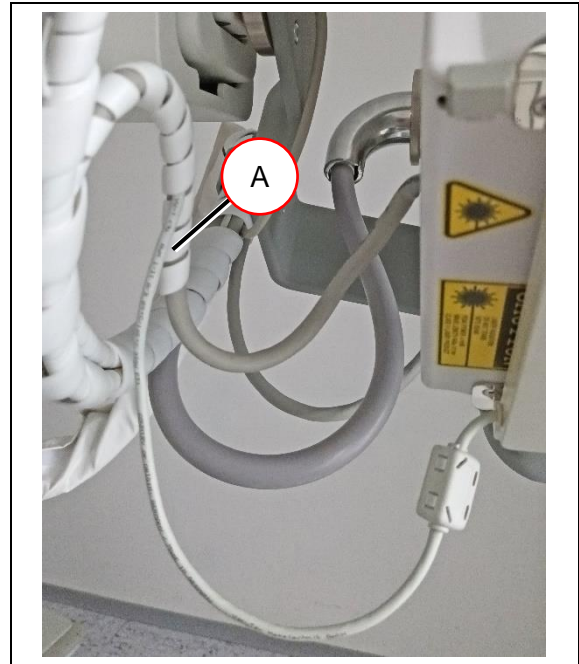

Figure 5:
- (4) If applicable, shorten the spiral cable wrap (A) and wind it again around the cable as shown in Figure 5.